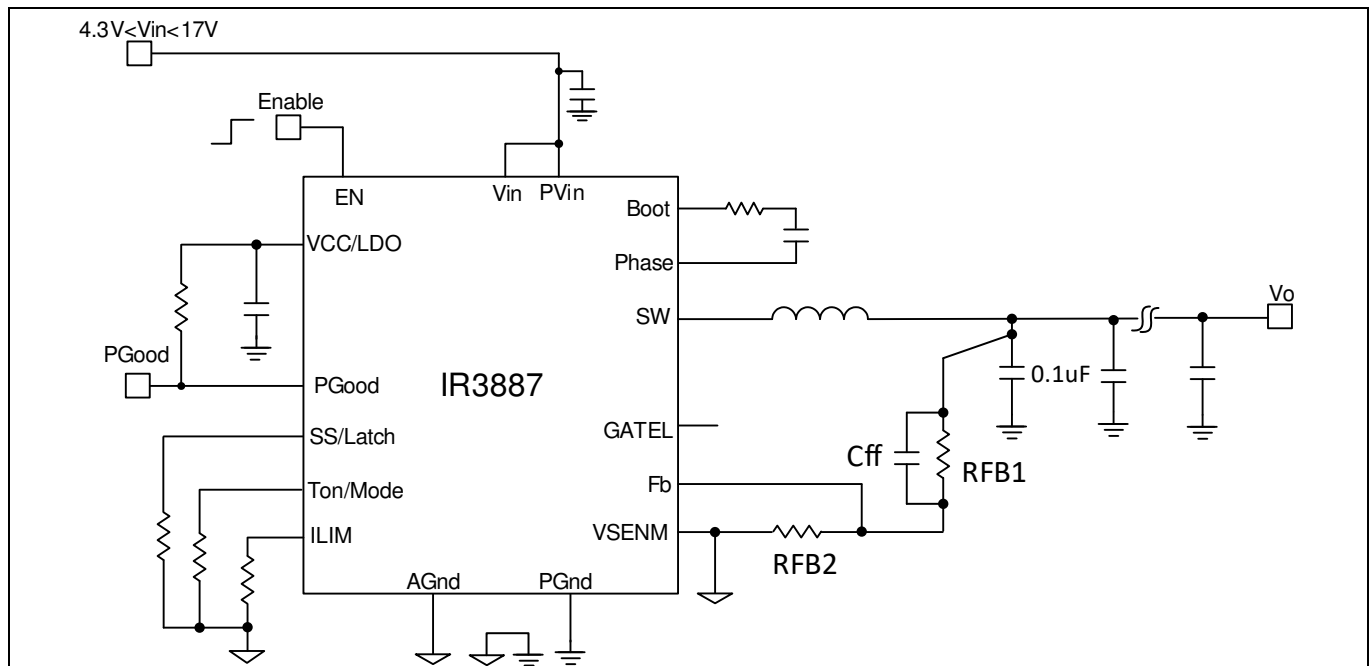

Figure 23 Single-ended V_o local sense configuration
- Single-ended Vo sensing is often used for local sensing. To implement this configuration, following design guidelines should be followed, as illustrated in Figure 23.